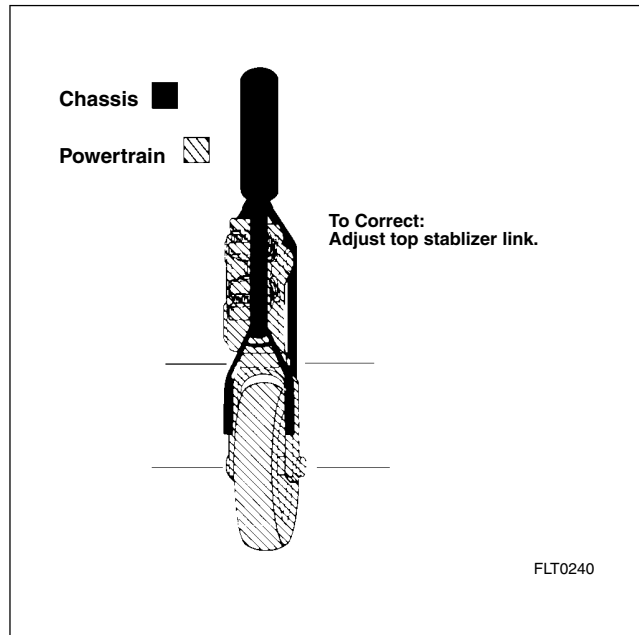

Figure 2-41. Vertically Misaligned
13. After verifying that the motorcycle is level, check vertical alignment placing an inclinometer on both front and rear brake rotors. Front and rear lean angles should be equal +/- 1/2 degree. See Figure 2-41. If vertical alignment exceeds specification, proceed as follows: